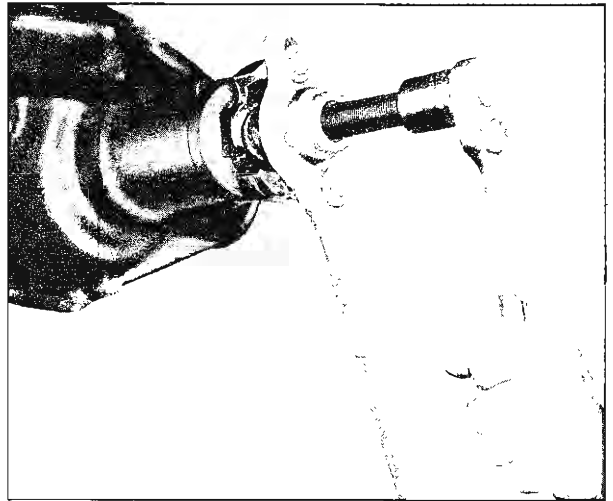

Fig. 47—Drive Pinion Flange Removal
6. Thread pilot end of Tool J-8614-3 into small OD end of J-8614-2. Then with J-8614-1 installed as in Step 4, insert J-8614-2 into J-8614-1 and turn it 45 degrees to locked position. Remove flange by turning J-8614-3 while holding J-8614-1 (fig. 47).